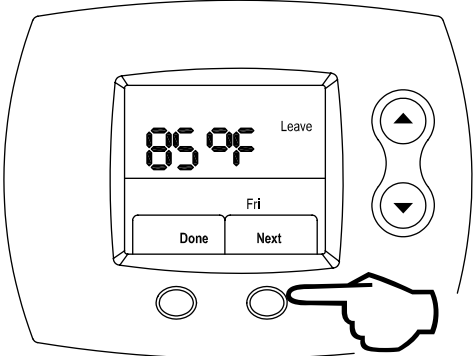

Figure 132
Step 15: Press the **RIGHT** (Next) button to lock in the Leave period water temperature, as shown in Figure 132. Now, the Leave time period is set for Friday.